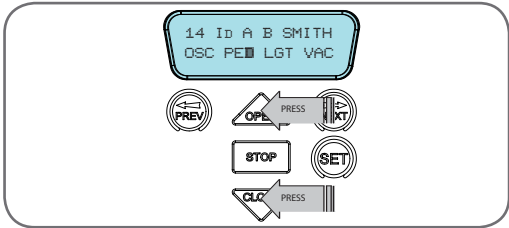

Fig F.2
- b. Press OPEN or CLOSE to change the displayed value (**Fig. F.2**). The available functions are shown below. Selecting OFF will prevent the opener responding to that button.